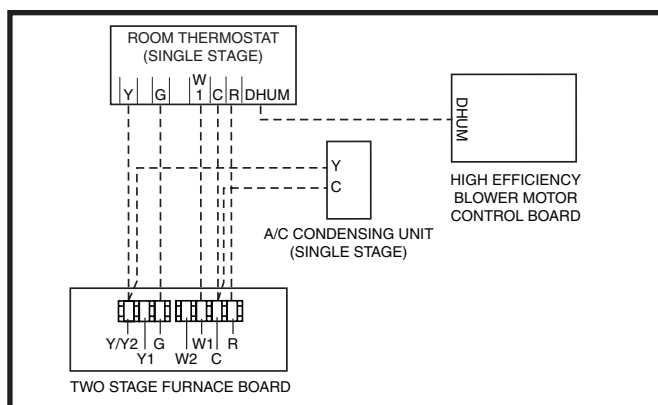
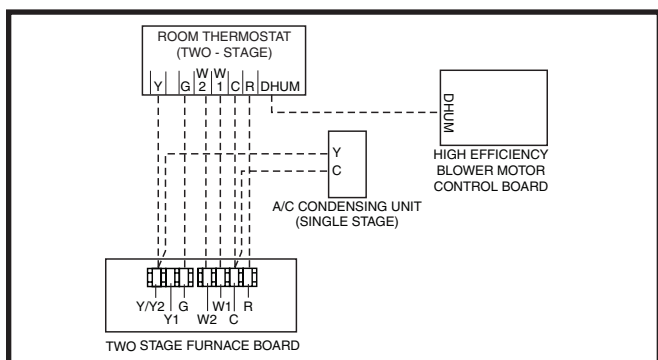

Figure 20. Wiring Configuration 1
Figure 21. Wiring Configuration 2
- The thermostat must be installed according to the instructions supplied by the thermostat manufacturer. Low voltage connections (24 VAC) from the thermostat are wired to the terminal strip on the integrated control in the furnace. For heating applications, Figure 20 & Figure 21 \(page 24\) show how to properly connect single stage and two-stage thermostats. Recommended minimum wire gauge for thermostat wiring is shown in Table 9, \(page 34\).
This option uses the full two stage heating capability of the furnace with a single stage outdoor unit. See Figure 20.
The Autostaging feature makes it possible to use a single stage thermostat and still receive some of the benefits of 2-stage furnace operation. If Autostage is enabled, the furnace will drop to **LOW** fire after initially starting in **HIGH** fire. After a period of 10 minutes, the furnace will then stage up to **HIGH** fire, until the heating load is met. See Figure 20 \(page 24\) and the Low Voltage Connection section.
- ✓ Verify that all needed thermostat wires are securely connected to the correct leads on the terminal strip of the circuit board. See Figure 20 & Figure 21.
- Remove the regulator capscrew from the INLET side of the regulator. See Figure 21.